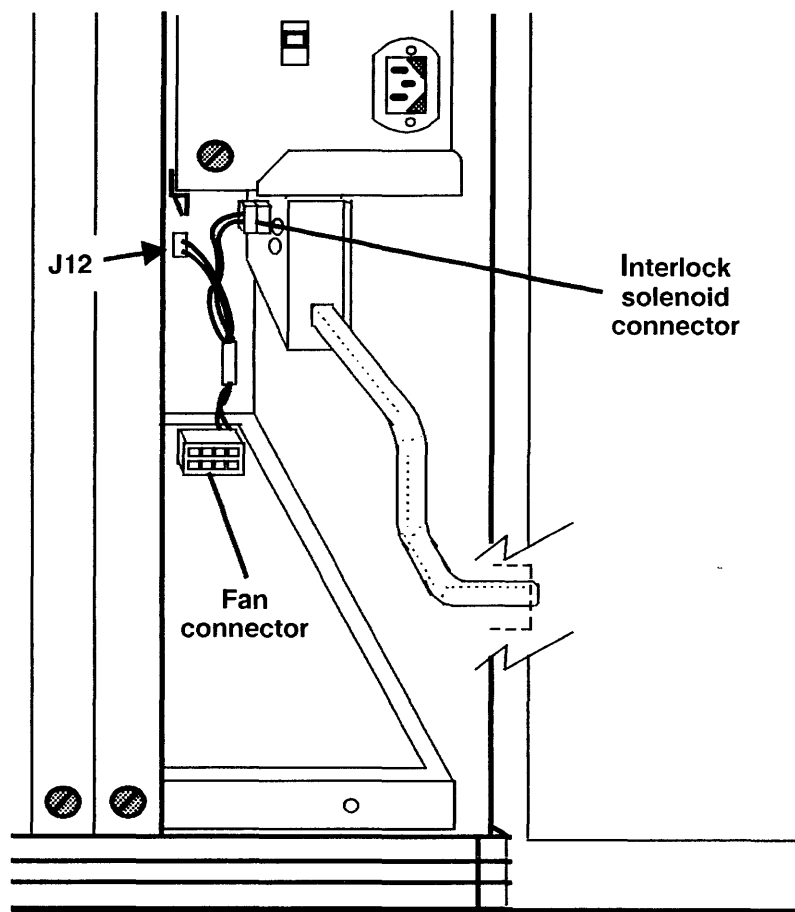

Figure 20. Fan / Interlock Solenoid Harness
- Disconnect the interlock solenoid connector and check for +11.83 to +12.57 VDC coming from the plug on the harness (Figure 20). The correct voltage is read.